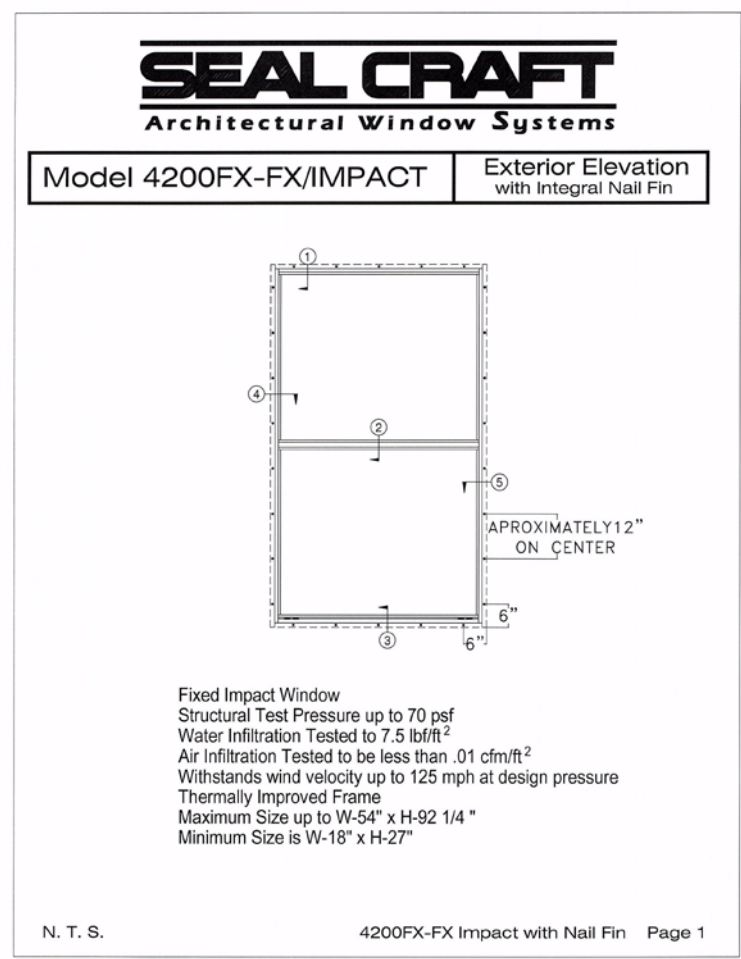

Fig. 1
- 5.4.2 Fasteners should be Minimum 6" from each corner and Minimum 12" on center at the full perimeter of the window. See Fig. 1 below.
- 5.4.3 Fasteners should be placed equal to or greater than 1/2" away from edge of rough opening. See Fig. 1 below.